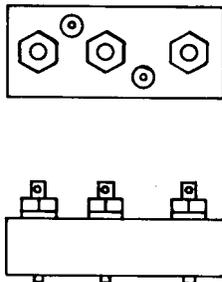

Fig. 1—451A Jack
**2.01 451A:** This multicontact jack (Fig. 1) is used with the 306A plug. This jack consists of an insulating block provided with three prongs - each having one end used as a terminal.